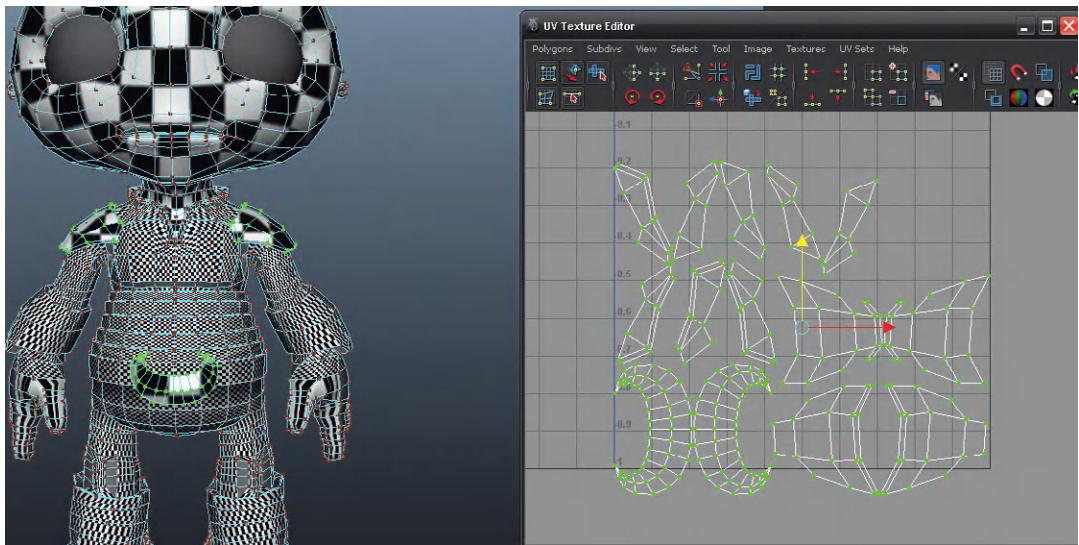

FIG 5.42 Results of Automatic Mapping. Now we can put it all back together.
Step 20: Polygons | Create UVs > Automatic Mapping (Fig. 5.42). Move this new projection to a good place to work with them within the UV Texture Editor.